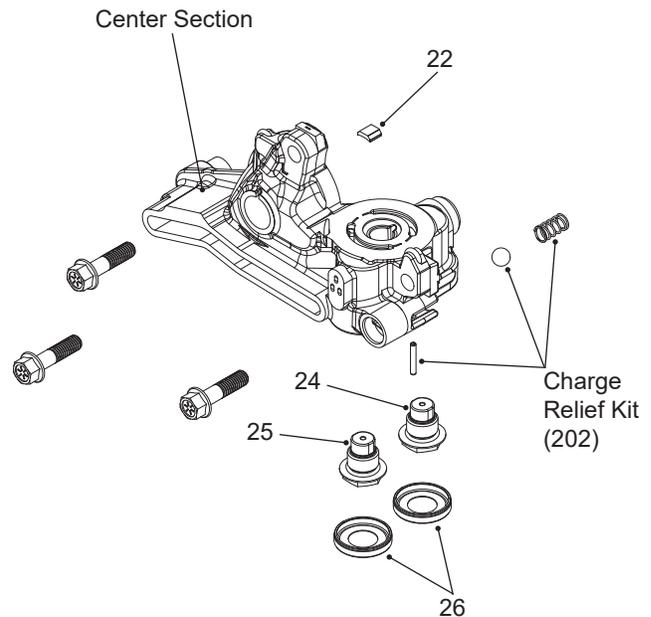

Figure 31, Center Section Kit (201)
Refer to Figure 31
1. Remove the bypass plate (22) from the center section.
2. Remove the shock valve seals (26) and discard. Refer to figure 31.
**IMPORTANT:** Before removing the shock valves, it is important to note their specific location, i.e., shock valve (24) needs to be reinstalled in the same port it was removed from and the same for shock valve (25). After removing the shock valves, inspect for debris or damage.
3. Remove the shock valves (24) and (25) and inspect.